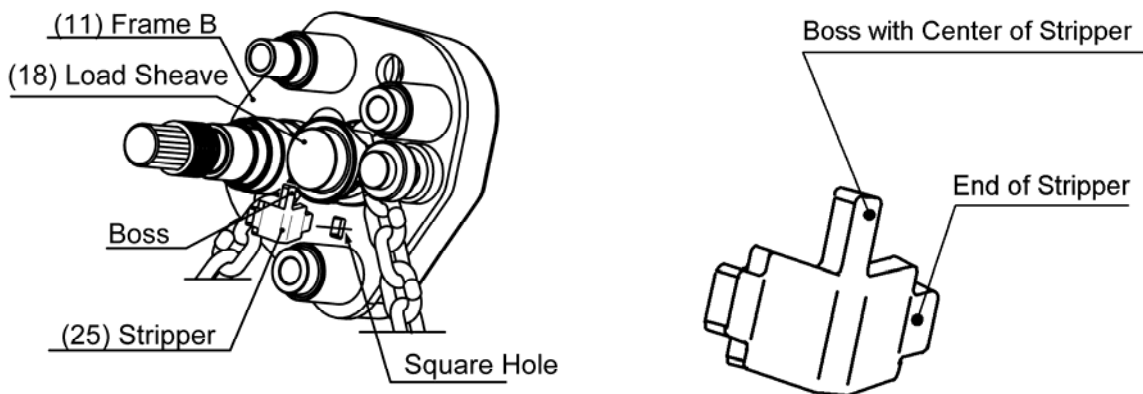

Figure 5-10 Stripper Attachment to Frame B
- 3) Align the boss with the center of (25) Stripper with a pocket of (18) Load Sheave and insert the end of the stripper into the square hole in (11) Frame B. Refer to Figure 5-10.